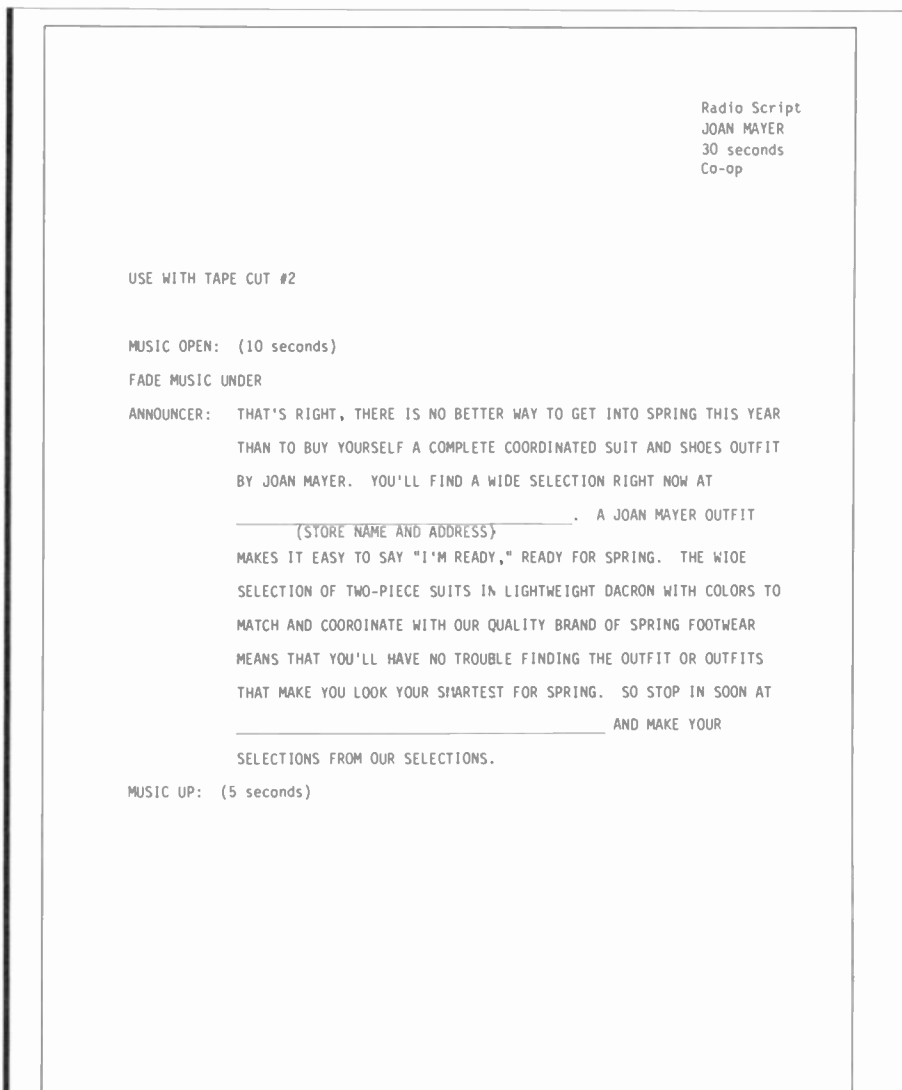

Figure 11.3. A commercial using a "donut." (Script courtesy Philip Benoit.)
2. *Jingles from a national advertiser's ad agency.* When large manufacturers provide a contribution to local merchants' advertising budgets, the result is known as cooperative or "co-op" advertising. The same types of jingle are used by large organizations that have local franchises. Most of this prepared music comes in the form of what's known as a **donut**, whose "hole" is filled in by the local merchant's copy. An example of a script for a donut co-op ad is shown in Figure 11.3.